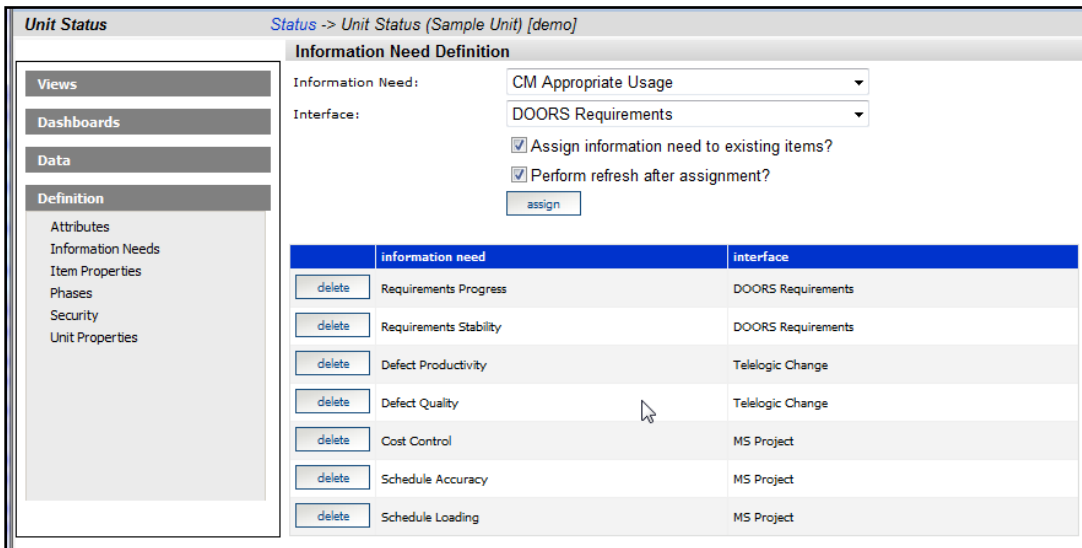

Figure 19
5. Click the Information Needs command (Figure 19)